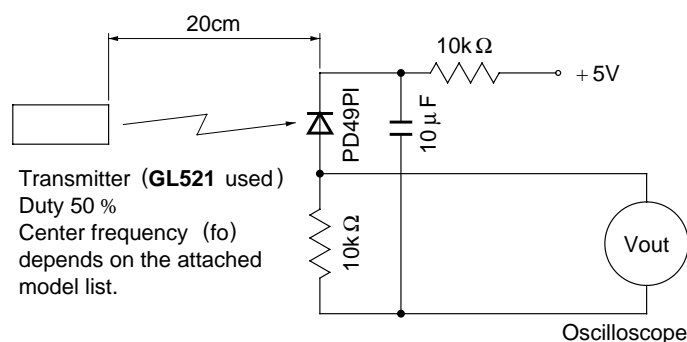
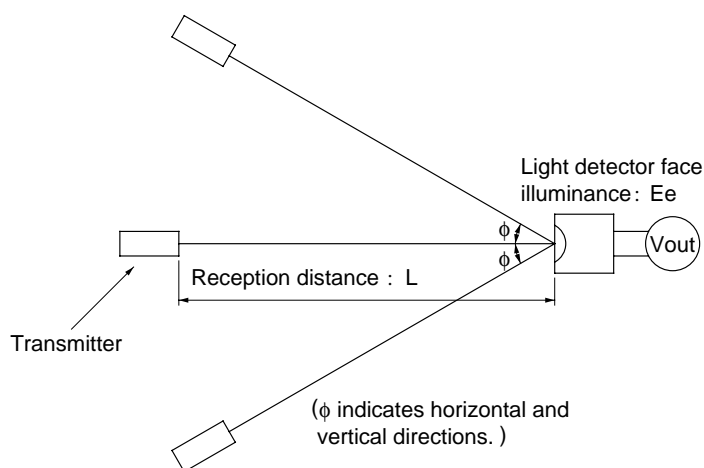

Fig. 1. Transmitter
Fig. 2. Standard optical system
*3 The burst wave as shown in the following figure shall be transmitted by the transmitter shown in Fig. 1.
Using the transmitter shown in Fig. 1, the output signal of the light detecting unit is good enough to meet the following items in the standard optical system in Fig. 2.
When $L = 0.2$ to 8m , $E_e < 10\text{ lx}$ and $\phi = 0^\circ$ in Fig. 2, the output signal shall meet the electrical characteristics in the attached list.
When $L = 0.2$ to 6m , $E_e < 10\text{ lx}$ and $\phi \leq 30^\circ$ in Fig. 2, the output signal shall meet the electrical characteristics in the attached list.
When $L = 0.2$ to 4m , $E_e \leq 300\text{ lx}$ and $\phi = 0^\circ$ in Fig. 2, the output signal shall meet the electrical characteristics in the attached list.